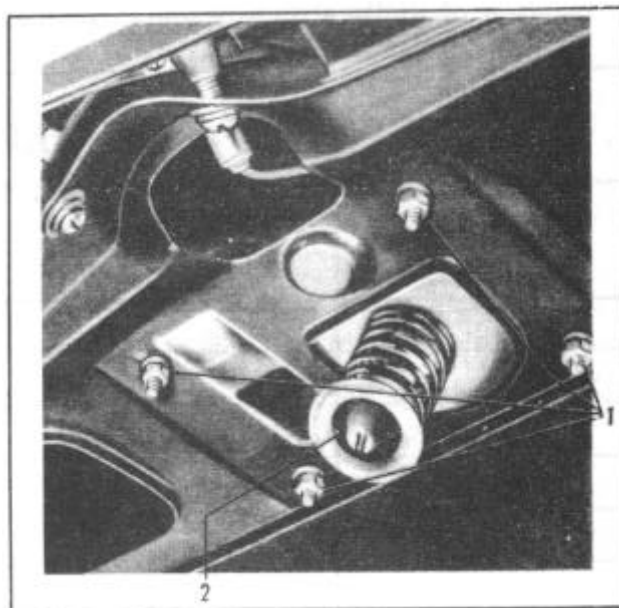

FIGURE 99
1. With a screwdriver remove the spring retainer bolt (2) from the attaching nut and remove retainer and spring, Figure 99.
2. Remove the four attaching nuts and washers (1) from lock support plate.